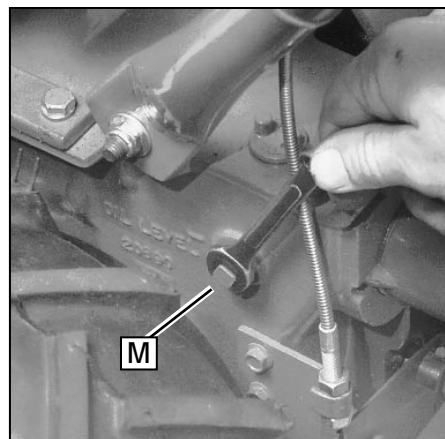

Figure 2-11: Gear oil level check plug.
2. Remove the oil level check plug (M, Figure 2-11) on the left-side of the transmission. (Due to dried paint on the plug threads, it may require some force to remove the plug the first time.) The gear oil level is correct if oil starts to flow out of the hole as the plug is removed. If so, securely reinstall the plug.
- Reinstall and tighten securely the gear oil fill plug (M, Figure 2-11).